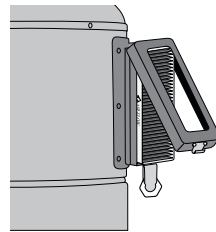

figure 10
1. Unlatch the opening on the carbon filter case and gently flip it upward (**figure 10**).